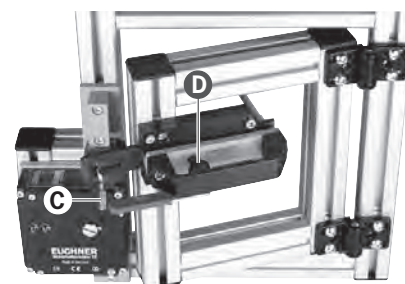

Figure 3: Padlock and detent knob
- ▶ Padlock (Figure 3, C)
- ▶ Detent knob (Figure 3, D)